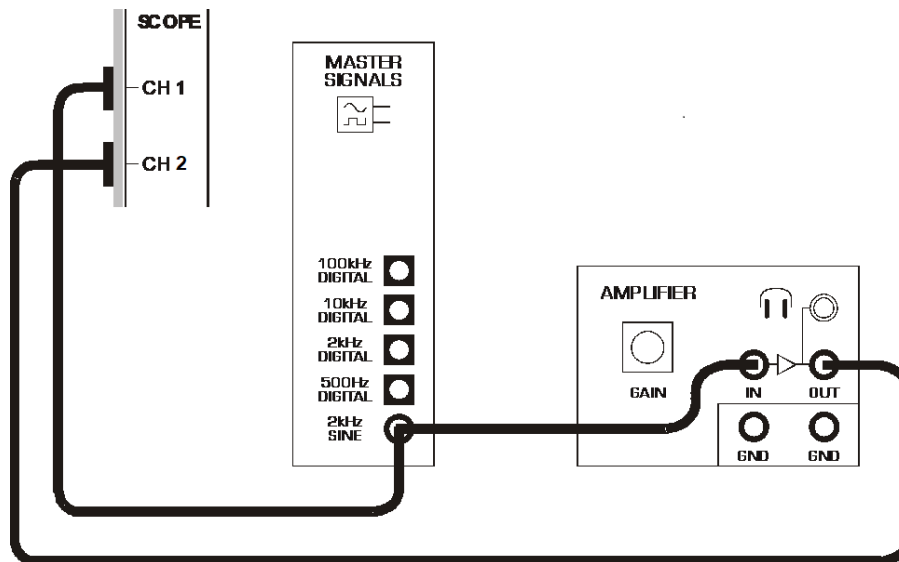
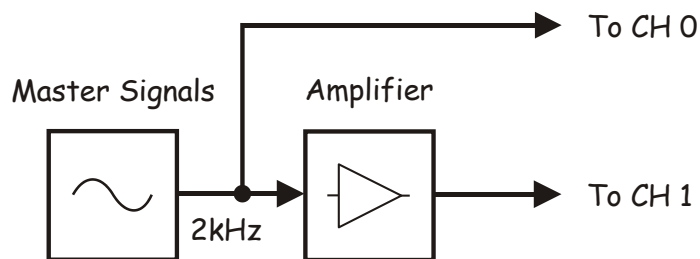

Figure 4: AMPLIFIER module usage patching diagram
Figure 5: AMPLIFIER module usage block diagram
16. Connect the set-up shown in Figure 4 below.
The set-up in Figure 4 can be represented by the block diagram in Figure 5 below.